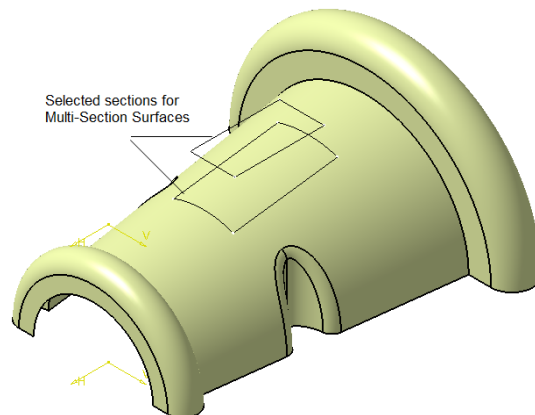
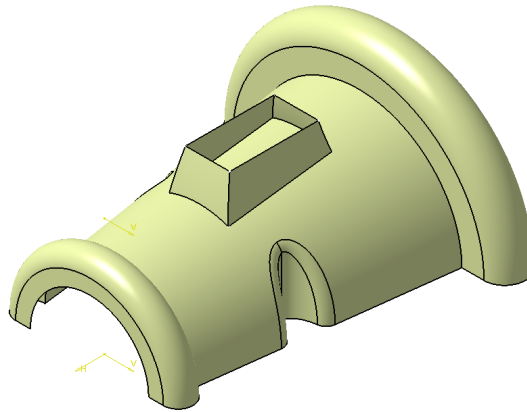

Figure 17-95 Sections selected for multi-section surfaces
Figure 17-96 Resultant lofted surface
9. Select the sections, as shown in Figure 17-95, and choose the **OK** button from the **Multi-Sections Surface Definition** dialog box. Figure 17-96 shows the model after creating the lofted surface.